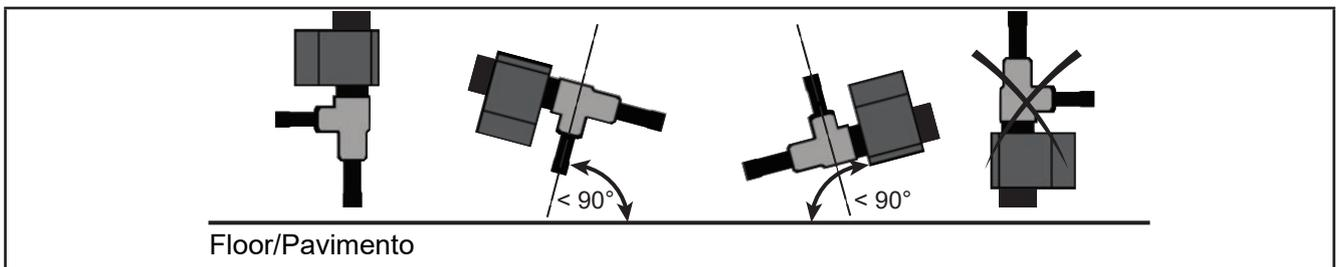

Fig. 2. Valve positioning
3. Position the valve as indicated (see Fig. 2). The coil must not be oriented downward.
(1) Use appropriate inspection methods (for example, visual, pressure testing) and ensure compliance with applicable standards. Document any irregularities and take corrective action if necessary.
(2) See Fig. 2